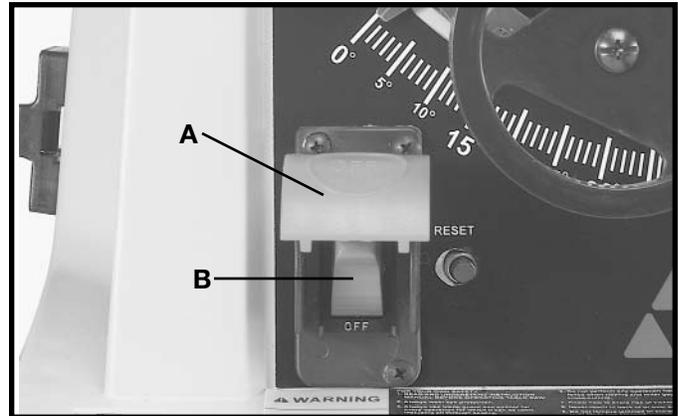

Fig. 41
1. The on/off switch is located underneath the switch shield (A) Fig. 41. To turn the saw **“ON”**, move switch trigger (B) to the up position.